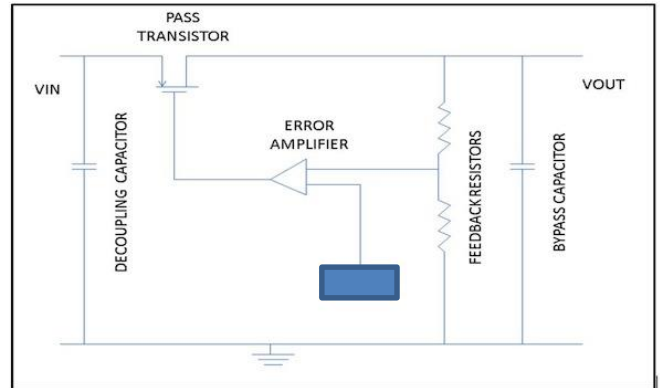

Figure 1: A voltage converter
b. What is the purpose of the “bypass capacitor” in figure 1?